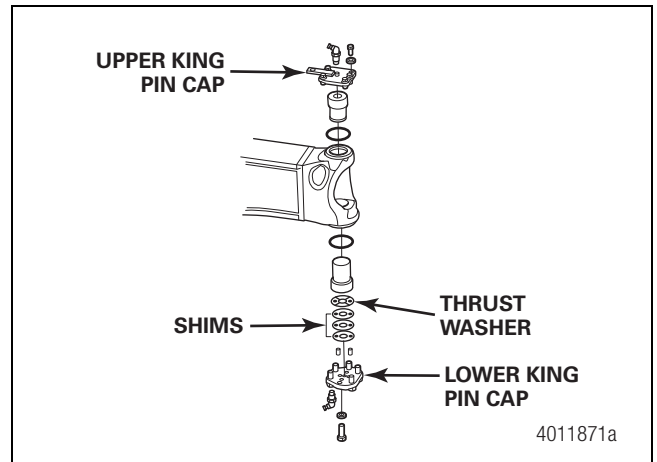
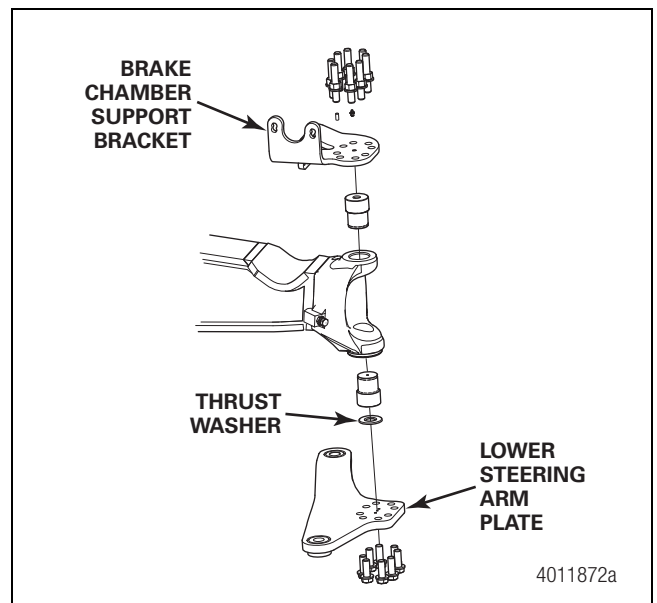

Figure 8.11
Figure 8.12
2. Install the O-ring, if equipped, upper king pin cap, washer and bolts. Figure 8.11. If equipped with S-cam drum brakes, install the brake chamber support bracket instead of the upper king pin cap. Figure 8.12. Tighten the bolts to the torque specified in Section 11.